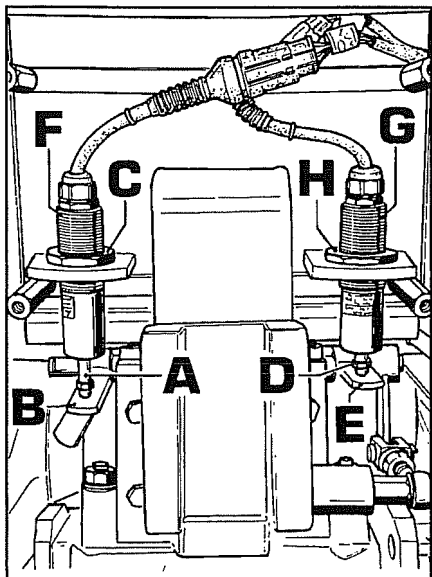

Fig. 50
1. Regulating the controlled position sensor **F** (Fig.50):
2. Regulating controlled draught sensor **G** (Fig.50):
- e. To check the controlled position sensor **F** Fig.50 regulation, turn the tractor on, lower the lift leaving the raise/lower lever in the lower position.